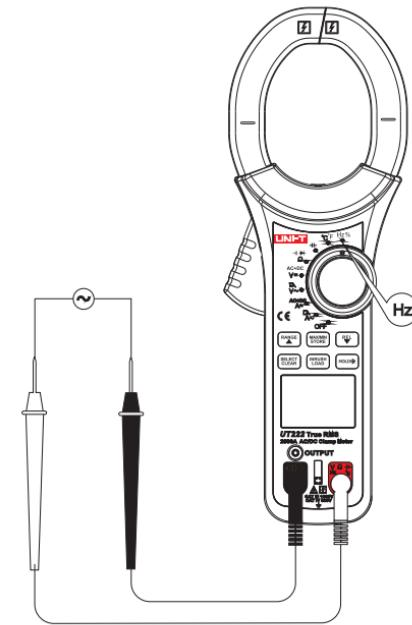

Figure 10
## 7. Frequency/duty ratio measurement (See Figure 10)
- Current measurement must be operated within  $0^{\circ}\text{C} \sim 40^{\circ}\text{C}$ , if positive reading is achieve after measuring DC current, the current direction will be from up to down (See Figure 10: the upward is panel and base cap is downward). Do not loosen trigger abruptly, since Hall component is sensitive in some extent to magnet, heat and mechanical stress, but also to the impact, which may cause short-time reading variation.
- Current measurement must be operated within  $0^\circ\text{C} \sim 40^\circ\text{C}$ , if positive reading is achieved after measuring DC current, the current direction will be from up to down (See Figure 10: the upward is panel and base cap is downward). Do not loosen trigger abruptly, since Hall component is sensitive in some extent to magnet, heat and mechanical stress, but also to the impact, which may cause short-time reading variation.
- Current measurement must be operated within 0°C~40°C, if positive reading is achieve after measuring DC current, the current direction will be from up to down (See Figure 10: the upward is panel and base cap is downward). Do not loosen trigger abruptly, since Hall component is sensitive in some extent to magnet, heat and mechanical stress, but also to the impact, which may cause short-time reading variation.